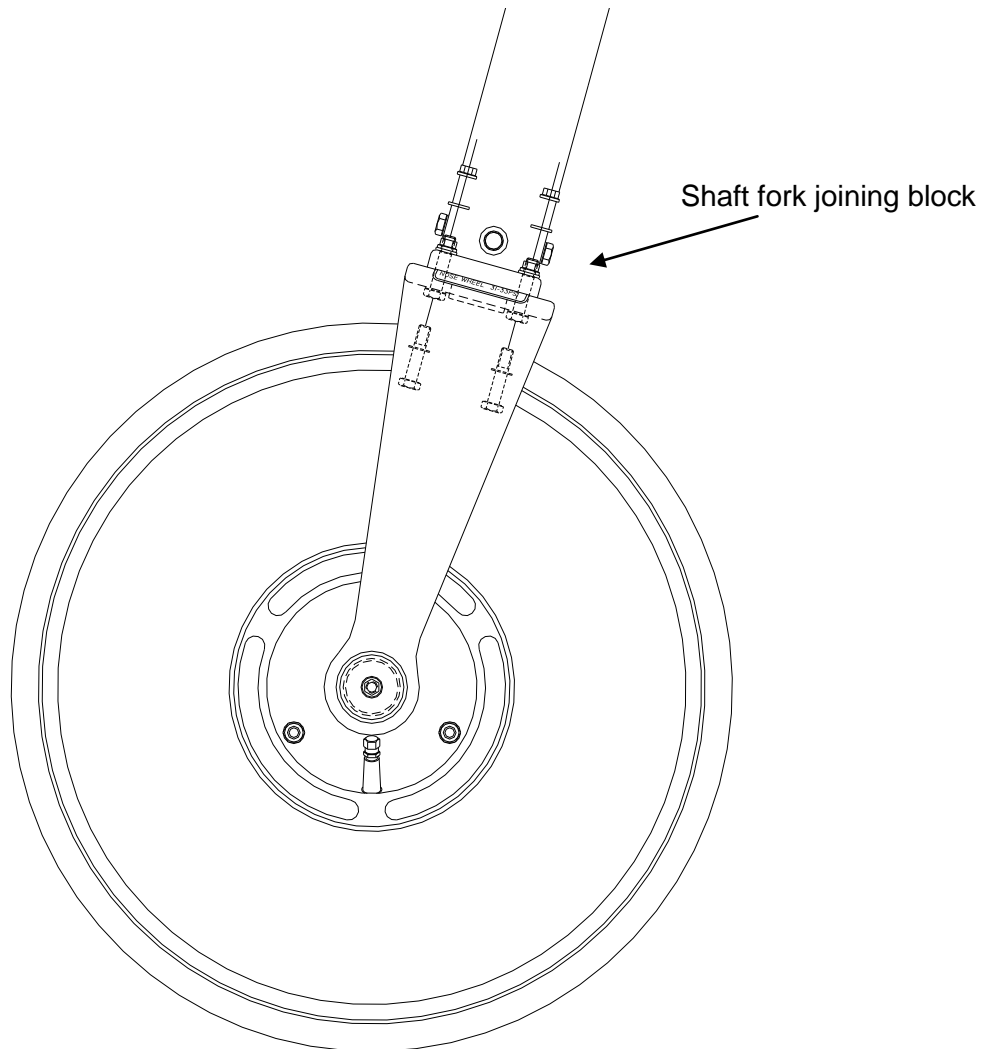

Figure 2: 8.00 x 6 Nose Wheel Assembly
Figures 2 and 3 will assist in installation of the 8.00 x 6 nose wheel assembly.
- 2.3 Using Figure 2 as a reference, install the nose wheel, axle tube, axle spacer, nose wheel plugs, and axle bolt. Ensure that the nose wheel is installed with the tyre valve on the port side.